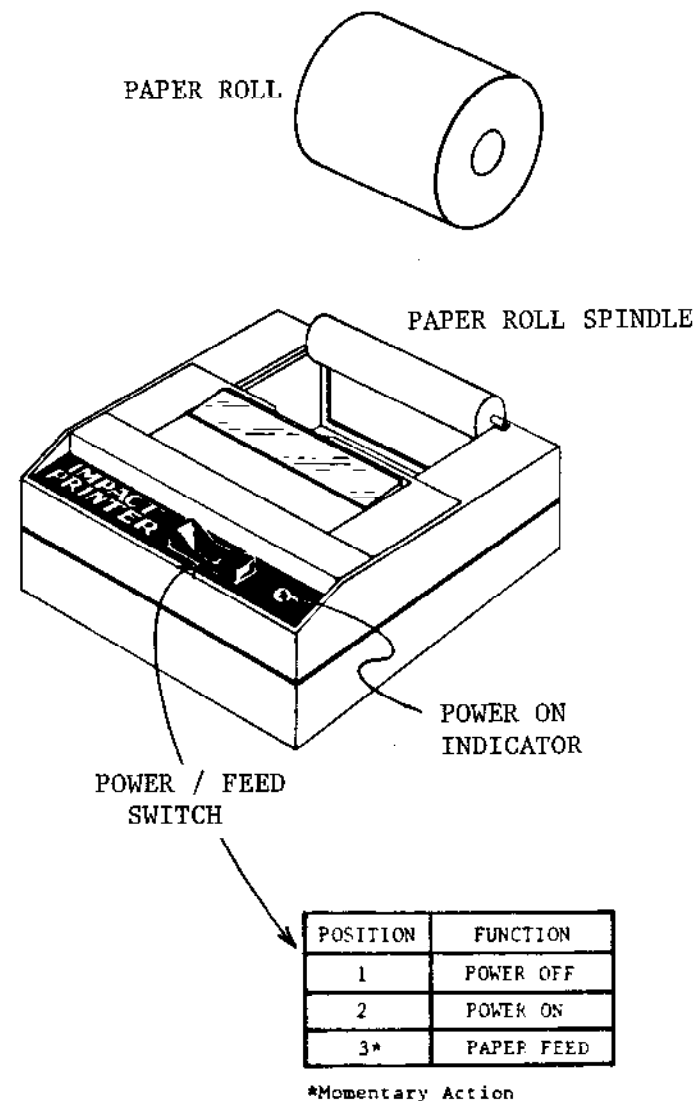

Figure 3.
3. Place the ON-OFF switch on the Printer in the ON position (Figure 3). The Power On Indicator on the Printer front panel will light (Figure 3).